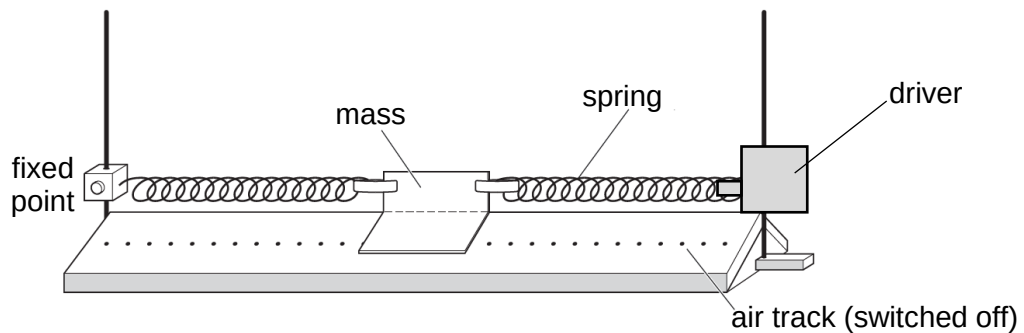
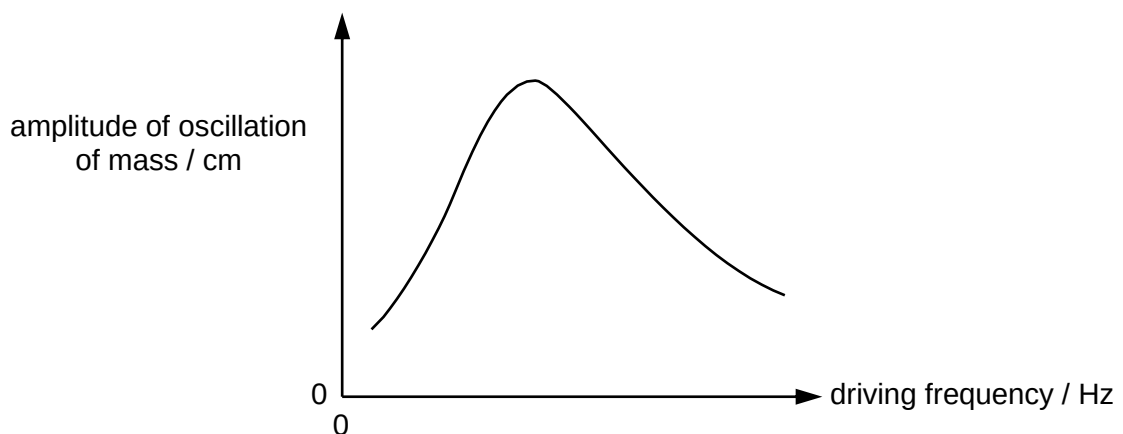

Fig. 3.3
Fig. 3.4
- (c) The blower of the air track is switched off so that the mass is in direct contact with the track. One end of the spring is attached to a driver (oscillator) shown in Fig. 3.3. The amplitude of oscillation of the driver is kept constant.
The frequency of oscillations is gradually increased from zero. The variation of the amplitude of oscillation of the mass with driving frequency is shown in Fig. 3.4.
- (i) State how Fig. 3.4 shows that the mass is undergoing damped oscillations.
- (ii) The model in Fig. 3.3 and result in Fig. 3.4 can be applied to a practical situation.